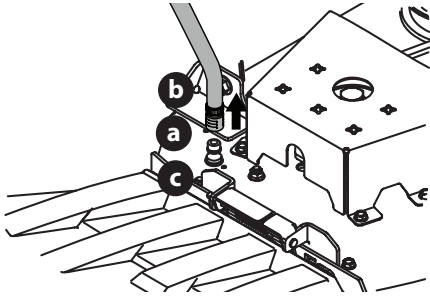

Fig. 29
3. Pull back the lock collar (a) of the nozzle adapter (b) and push the nozzle adapter onto the deck wash nozzle (c). Release the lock collar to lock the nozzle adapter on the deck wash nozzle (Fig. 29 on page 25).